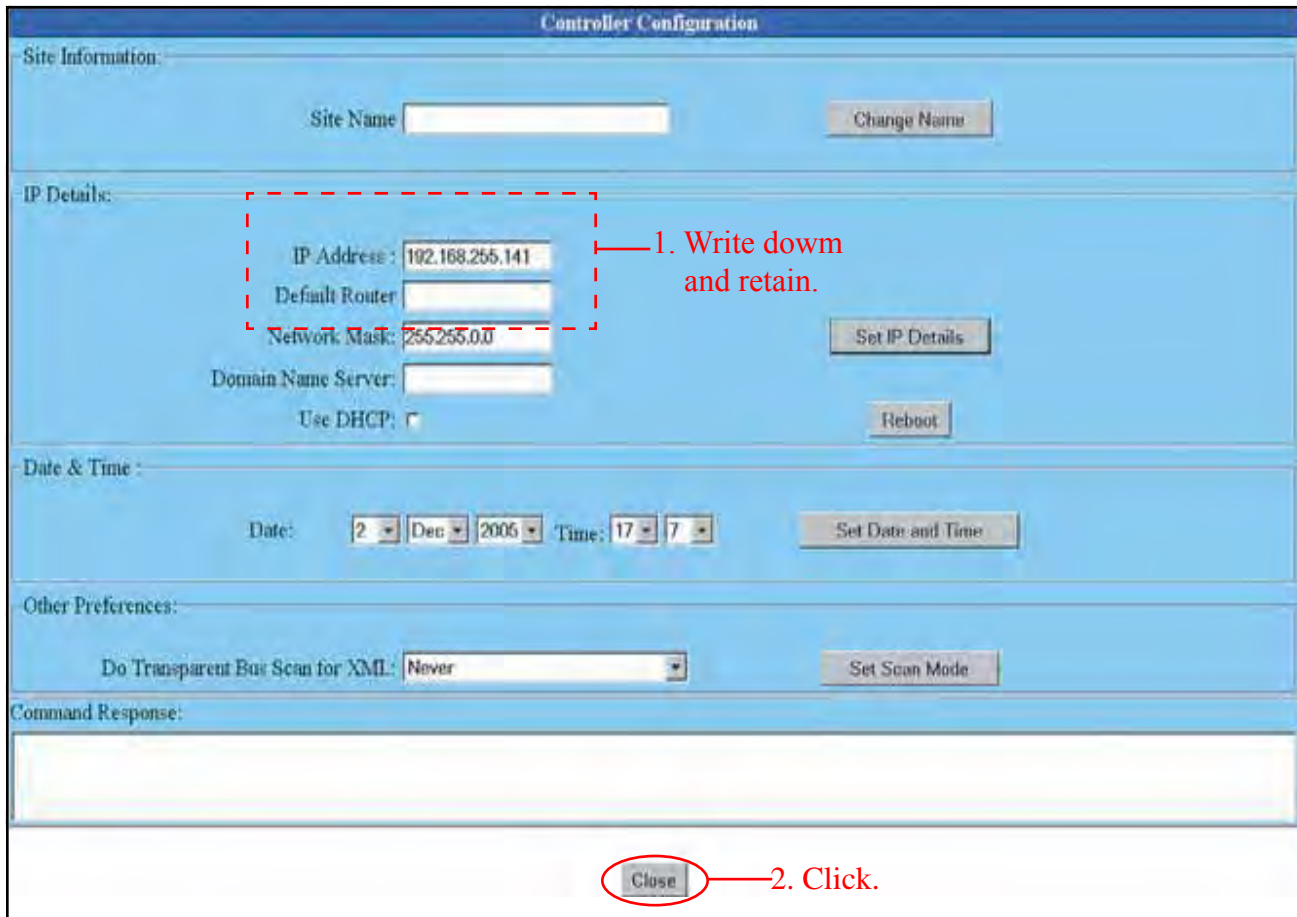

Figure 5-23. Entering the Controller's Serial IP Address.
6. Write down and retain the **IP Address**, **Network Mask**, and **Default Router** settings shown on the screen (Figure 5-23).
7. After the controller's IP settings have been written down, click on **Close** (Figure 5-23).